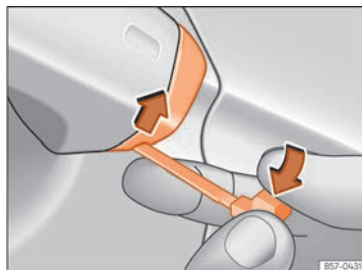

Fig. 56 Driver's door handle: pry the cover open.
- Insert the emergency key into the lower opening in the cover on the driver door handle then lift the bottom cover upwards >>> Fig. 56.